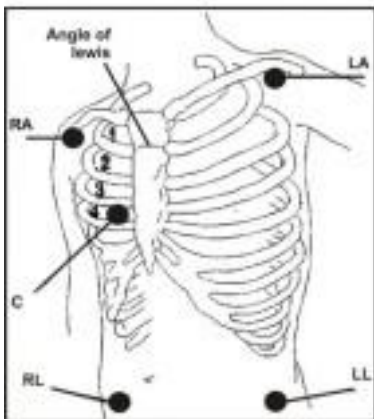

Figure 5-2 ECG 5-lead electrode placement
Electrode placement for 5-lead set (figure 5-2)
Chest (C): white electrode, be placed on the chest as shown in the figure 5-2.